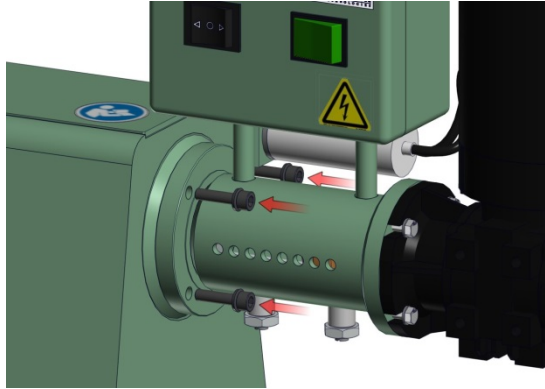

Figure 4.8.8
8. Mount the provided washers and cap screws (Item 8, Figure 7.4) into the 4 holes around the Spindle Guide in the machine Base. See Figure 4.8.8 below.